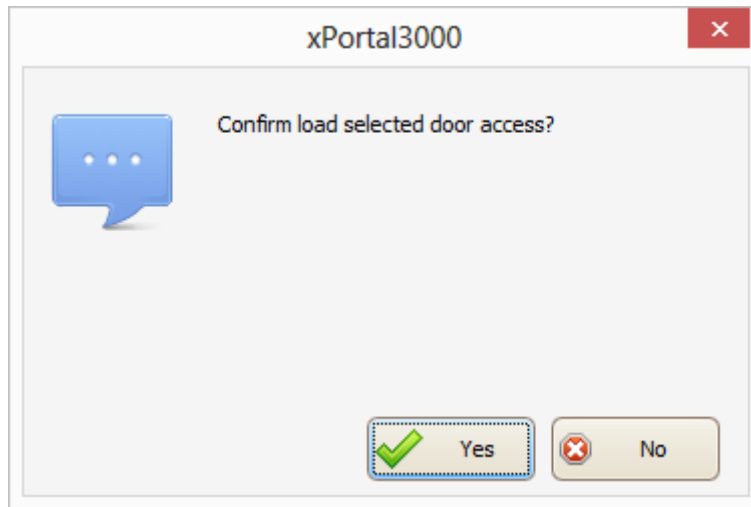

Figure 72 - Confirm Load Door Access
13. The following screen will be shown (Refer **Figure 72**).